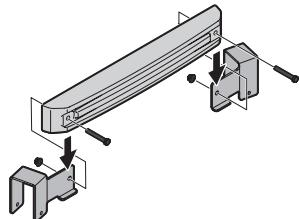

Figure 37
1. Attach the left mounting bracket and the right mounting bracket to the weight bar using two 2-1/2" screws (710-0859) and 3/8" flange nuts (712-04065) from hardware pack 689-02200. See Figure 37.